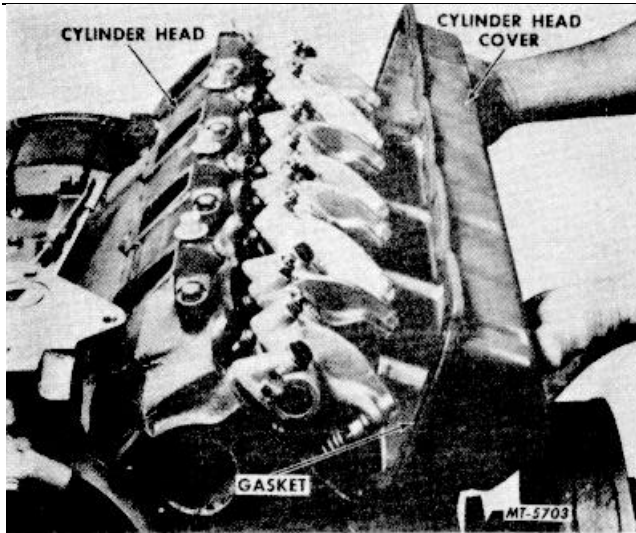

Fig. 41 Removing Cylinder Head Cover
35. Remove cylinder head cover screws and flat washers and remove covers and gaskets from cylinder heads (Figure 41).